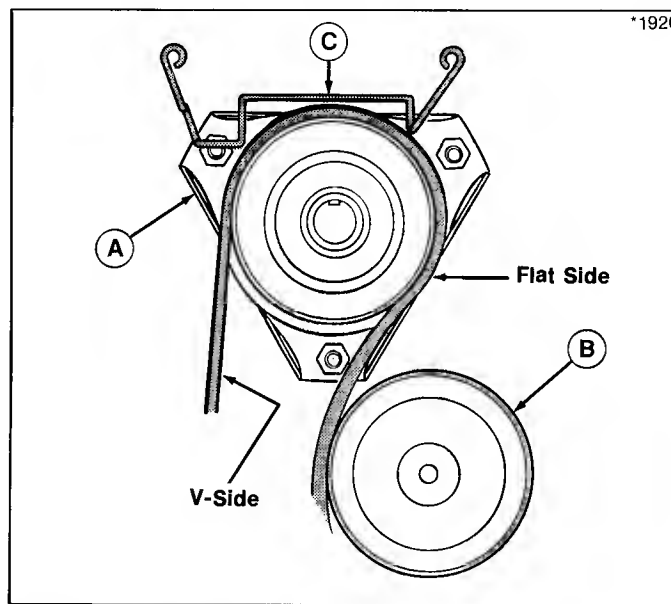

Figure 27. Belt Installation
9. Remove mower belt around bottom pulley (V-side) and around idler pulley (flat-side). Hardware securing belt stop may need to be loosened to remove belt. Belt diagram is shown in figure 27.
2. Route belt underneath rider **over the drive axle**. Install mower belt around bottom pulley (V-side) of electric clutch. Refer to figure 27.